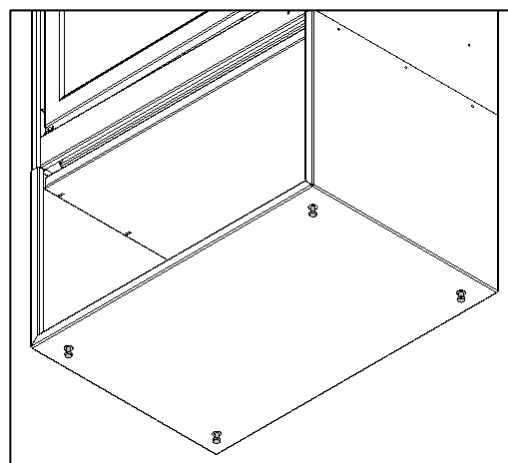
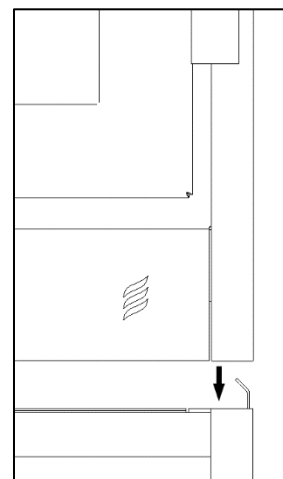

Figure 4-3: Leveling Bolts
Figure 4-4: Novo Podium Assembly
- 1) Fasten the 4 leveling bolts at the bottom of the podium (Figure 4-3)
- 5) From the side of the stove, grab the bottom back and the top front firebox lip of the unit and lift. **WARNING: This step requires a minimum of two (2) people.**
- 6) Slide the stove within the side centering flanges of the podium. Adjustment of leveling bolts may be required (Figure 4-4).